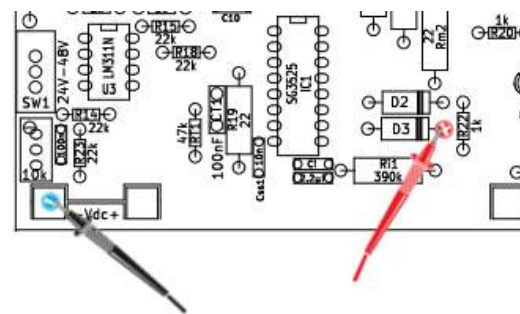

Figure 3.9: Measure of the output of the SG3525
2. Measure the voltage between the ground and the output of the SG3525 (cf figure 3.9).